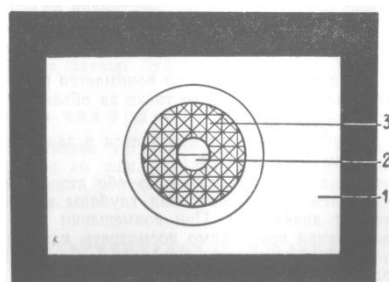

Figure 10
The focusing block of viewfinder has Fresnel lens (1) (fig. 10) with dim surface in which middle there are devices of a focusing - Doden wedges and microraster.
Rotating a ring (15) (see fig. 2), achieve concurrences of images in circle (2) (see fig. 10) or sharp image in circle (3).